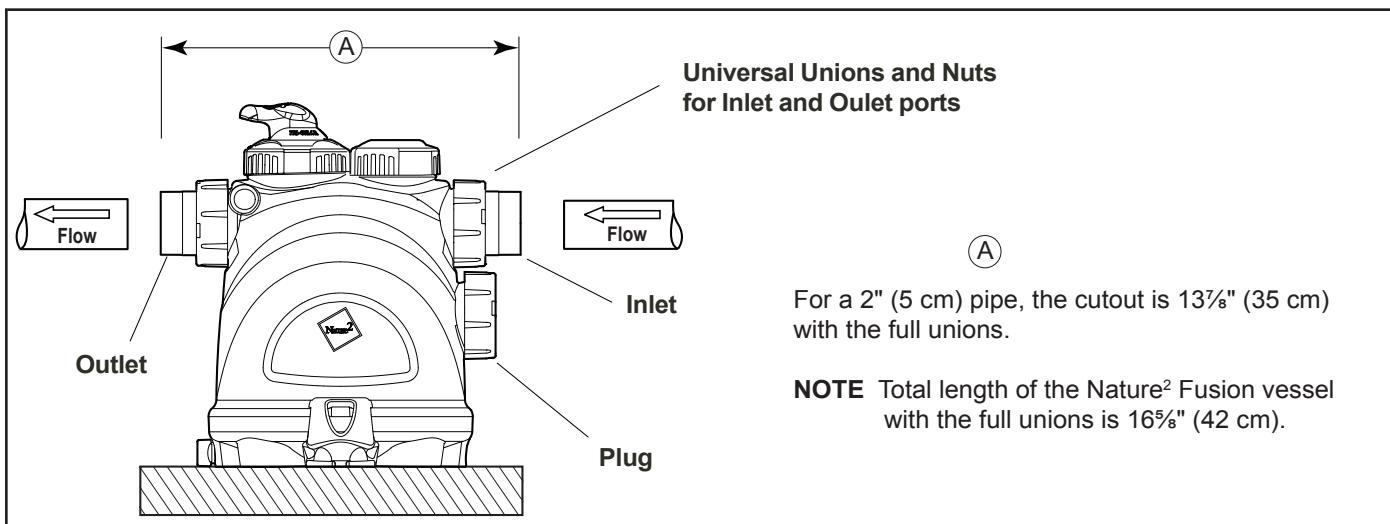

Figure 4. Pipe Cutout
4. Cut out a 13 $\frac{7}{8}$ " (35 cm) section of the 2" (or 5 cm) pipe to insert the vessel (see Figure 4).